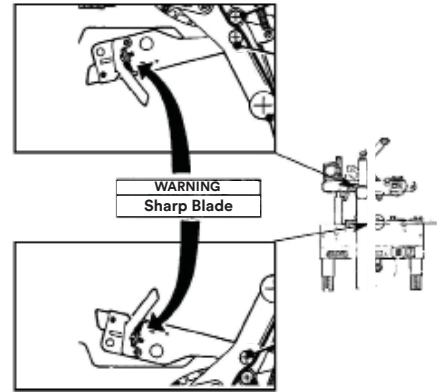

Figure 3-5
**Important!** Tape cutting blade. Never remove safety device which covers blade on top and bottom taping units. Blades are extremely sharp. Any error may cause serious injuries (Figure 3-5).